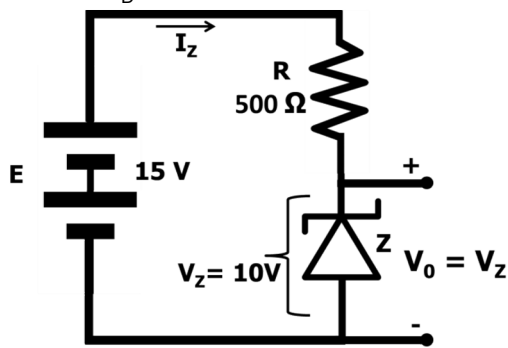

Fig 2.46
**Problem 2.21:**  $V_Z = 10\text{V}$ ,  $R = 500$ . For this circuit in fig 2.46, what is the current through the Zener?